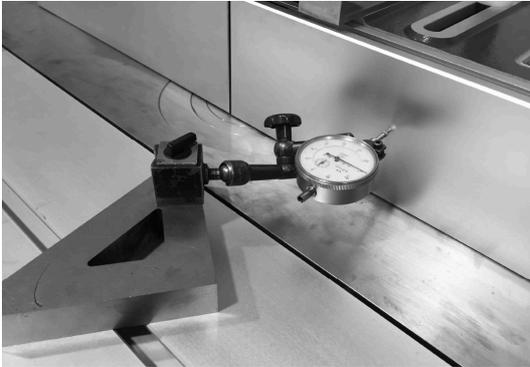
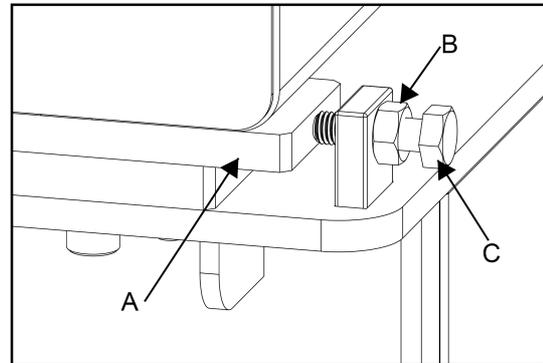

Fig.23
Fig.24
#### 6.1 Sliding Table (Fig. 23 & Fig. 24)
2. Slide the sliding table and use a dial indicator to measure the parallelism as shown in **Fig.23**
5. Loosen nuts (B), see **Fig.24**.
6. Turn the thread rod (C) out or in.
7. Push sliding table to ensure that the block (A) is against the thread rod (C).
9. Tighten screw (B) and the locking nuts of the sliding table.